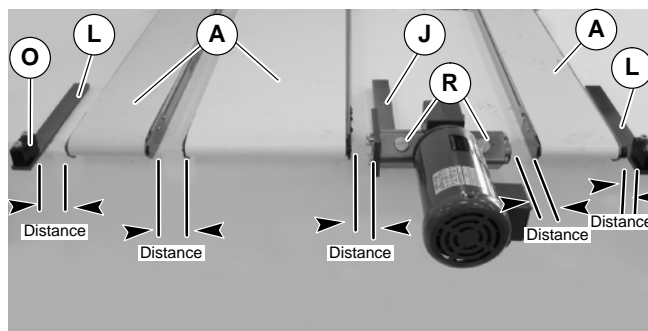
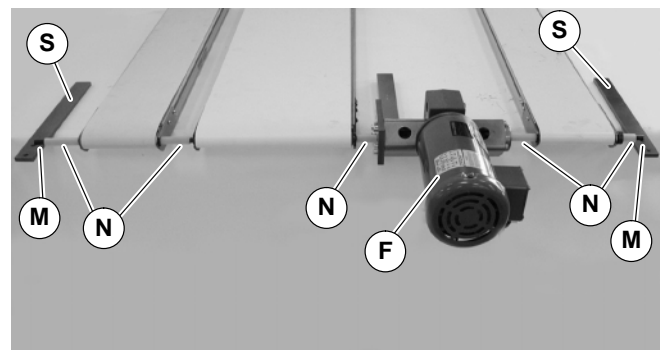

Figure 19
Figure 21
11. Align conveyors between gearmotor support assembly (J of Figure 19) and bearing support assembly (L).
**NOTE:** Do not secure the conveyors (A of Figure 19) to the mounting surface.
12. Cut shaft cover (N of Figure 21) into pieces to match each distance (Figure 19) minus 1/16" (1.5 mm).
15. Slide hex shafts (M of Figure 21) through conveyors and shaft cover pieces (N) on both sides of gearmotor assembly (F) and into flex couplings.